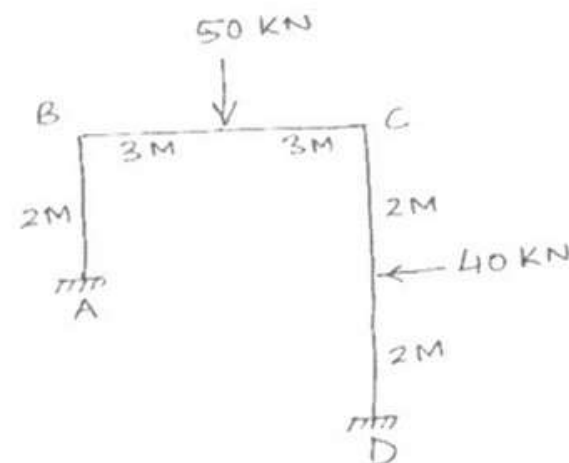

Fig.6
6. Analyse the rigid plane frame shown in Fig.6 by stiffness matrix method. Draw bending moment diagram. Take  $EI$  as constant.